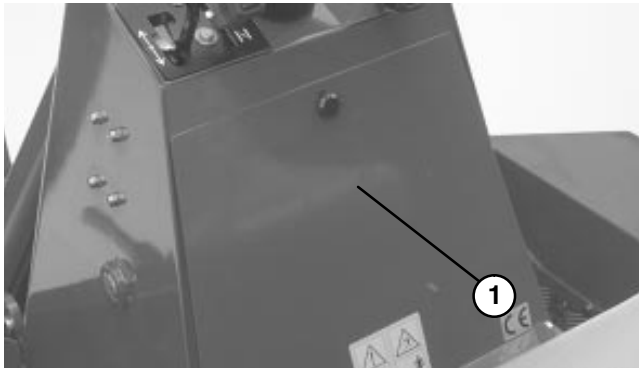

Figure 34
(Fig. 34–35)
2. Remove access panel from rear of tower (Fig. 34).